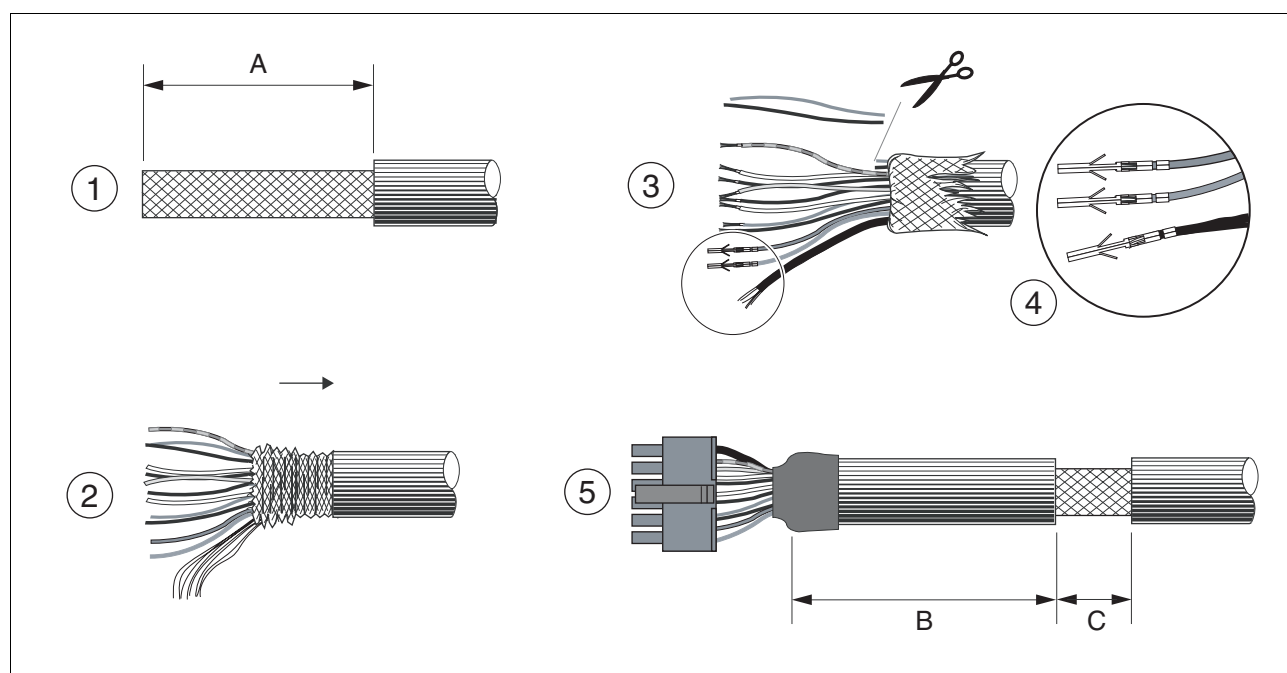

Figure 6.13 Steps (1-5) for fabrication of the sensor cable
- Use prefabricated cables to minimise the risk of a wiring error (from page 344). Step 5 in Figure 6.13 must be carried out even with pre-fabricated cable. The dimensions for positioning the shield on the housing are applicable when the included EMC plate is used.
- If you are not using prefabricated wiring, follow the procedure and the dimensions in Figure 6.13.